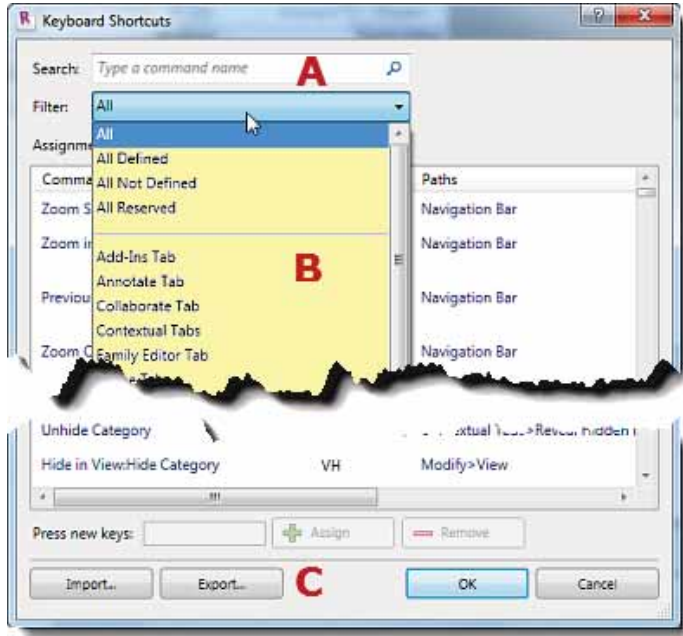

Figure 9 - Keyboard Shortcuts menu
2. RA 2011 has a new customizable Keyboard Shortcuts interface accessed by typing KS (yes_the Keyboard Shortcuts dialog box has a keyboard shortcut too!). Or you can go to View tab>Windows panel>User Interface>Keyboard Shortcuts. The dialog box that pops out (Figure 9) has a Search field (A, Figure 9) for finding a par-
ticular command. There is also a Filter drop-down menu (B, Figure 9) to narrow down your search. Before you customize any of the keyboard shortcuts, print a copy of the default keyboard shortcuts by clicking Export (C, Figure 9). You will be prompted to save the file as an XML file which can then be opened with a spreadsheet program.